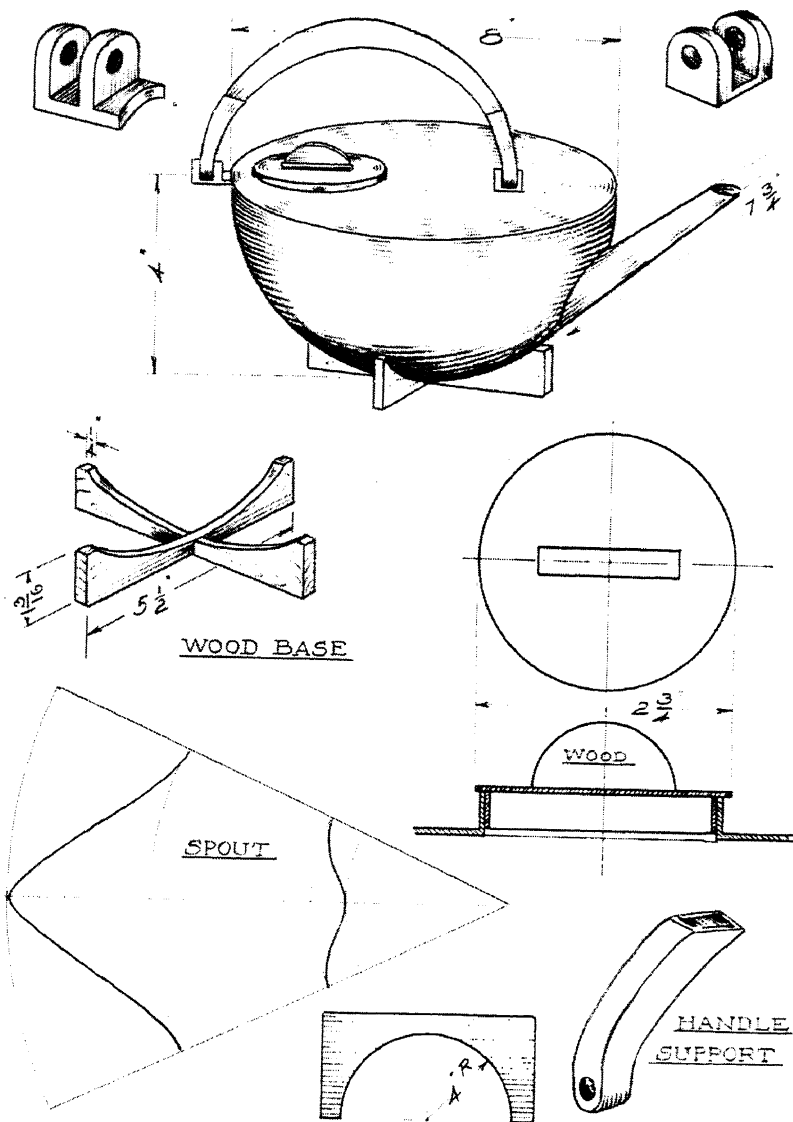

FIG. 1 TEMPLATE
1. Make a template for the curvature of the bowl (Fig. 1).
A pretty piece of metalcraft which any amateur should be delighted to make. Pewter is suggested because, first, it is a beautiful metal, and second, it is easy to work. The little sea horses can be cut and filed to shape from stock about  $\frac{1}{4}$  inch thick. For the more ambitious, it may be modeled and then cast. A template, as shown in Fig. 1, should be made from stiff manila paper.